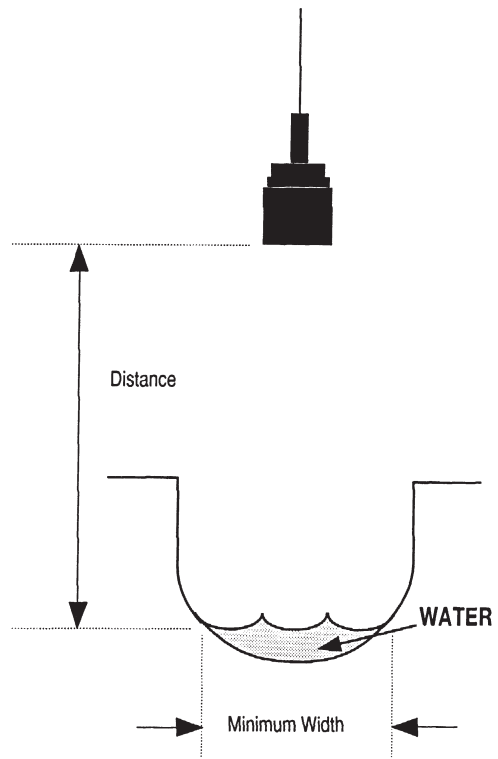

Figure 3-7 Small Pipes and Narrow Channels
**Small Pipes and Channels** – Small circular pipes, narrow channels, and small flumes may also cause problems with ultrasonic distance measurement. Since the ultrasonic pulse expands outward at a beam angle of approximately 12° as it travels away from the ultrasonic level sensor, it may strike the sides of a channel or the sloping sides of a circular pipe with low flow. (See Figure 3-7). This can result in false echoes and incorrect level readings. The term “small channels” generally refers to “U” shaped channels and pipe inverts 10" in diameter and less. The term “small flumes” generally refers to 1" and 2" Parshall flumes. It should be noted that the level measuring point for many types of flumes (Palmer-Bowlus, Leopold-Lagco, etc.) is not in the flume, but upstream in the invert of the pipe; for these types of flumes the section of interest is in the pipe invert, not in the flume itself. Thus, care should be exercised in the use of 10" or smaller Palmer-Bowlus and Leopold-Lagco flumes.